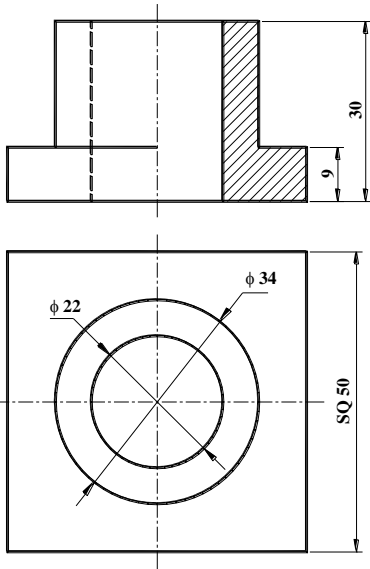

FIGURE T1.2A
2. DRAW THE ISOMETRIC DRAWINGS IN SECTION FROM THE GIVEN SECTIONAL VIEWS IN *FIGURE T1.2A* AND *T1.2B*.